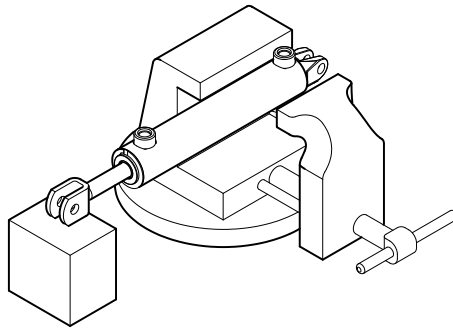

Figure 5-2, Cylinder Vise
2. Clamp the cylinder lightly at the base end in a soft jawed vise. Use a block or other support under the rod end of the cylinder. (Figure 5-2)